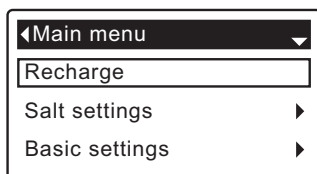
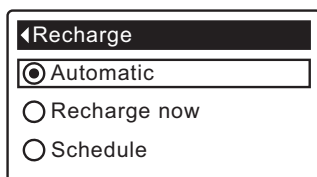
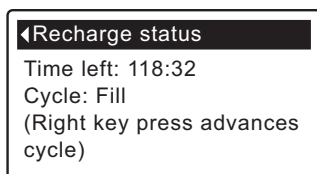

FIG. 37
FIG. 38
FIG. 39
2. Make sure **Recharge** is highlighted (See Figure 37).
3. Press the SELECT (O) button to display the Recharge menu (See Figure 38).
4. If the desired option already has a black dot next to it (See Figure 38), go to Step 5. Otherwise, press the DOWN (▼) or UP (▲) buttons to scroll to the desired option, then press SELECT (O) to choose it.
- **Recharge now** begins a recharge immediately after the SELECT (O) button is pushed again in Step 5.
5. Press the SELECT (O) button. If **Recharge now** is selected, the display immediately goes to the Recharge status screen (See Figure 39). If **Automatic** or **Schedule** are selected, the display goes back to the Main menu (Figure 37).